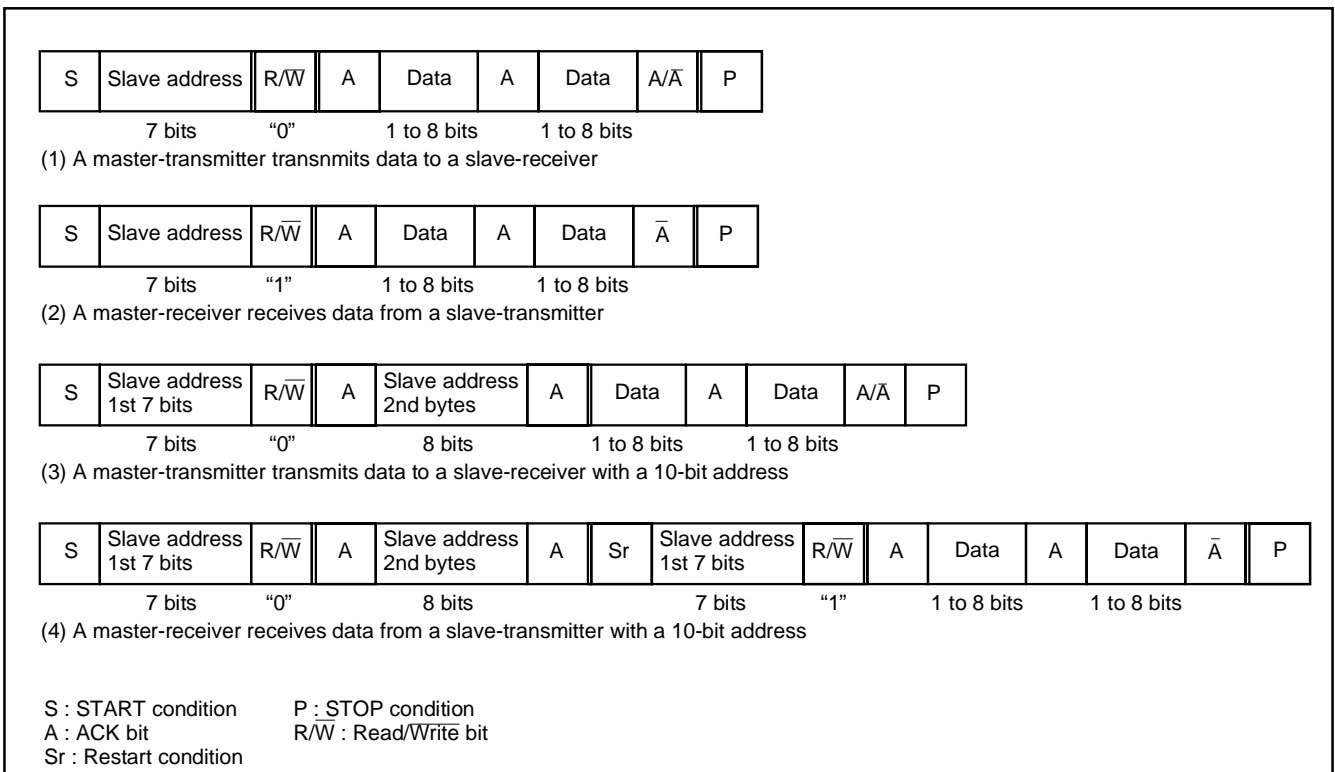

Fig. 42 Address data communication format
To adapt the 7-bit addressing format, set the 10BIT SAD bit of the I2C control register (S1D) to "0". The first 7-bit address data transmitted from the master is compared with the high-order 7-bit slave address stored in the I2C address register (S0D). At the time of this comparison, address comparison of the RWB bit of the I2C address register (S0D) is not performed. For the data transmission format when the 7-bit addressing format is selected, refer to Figure 42, (1) and (2).
When the first-byte address data agree with the slave address, the AAS bit of the I2C status register (S1) is set to "1". After the second-byte address data is stored into the I2C data shift register (S0), perform an address comparison between the second-byte data and the slave address by software. When the address data of the 2 bytes agree with the slave address, set the RWB bit of the I2C address register (S0D) to "1" by software. This processing can make the 7-bit slave address and  $R/\bar{W}$  data agree, which are received after a RESTART condition is detected, with the value of the I2C address register (S0D). For the data transmission format when the 10-bit addressing format is selected, refer to Figure 42, (3) and (4).